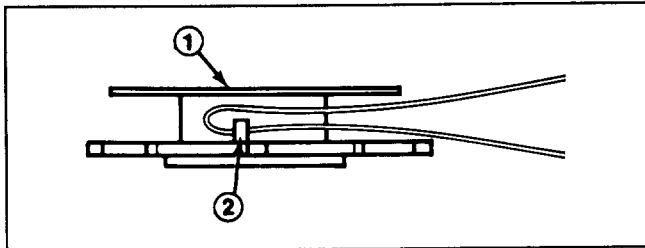

Figure 12
- B. Insert end of line into spool line retainer. Pull line thru so equal amount of line are on each end (Fig. 12).